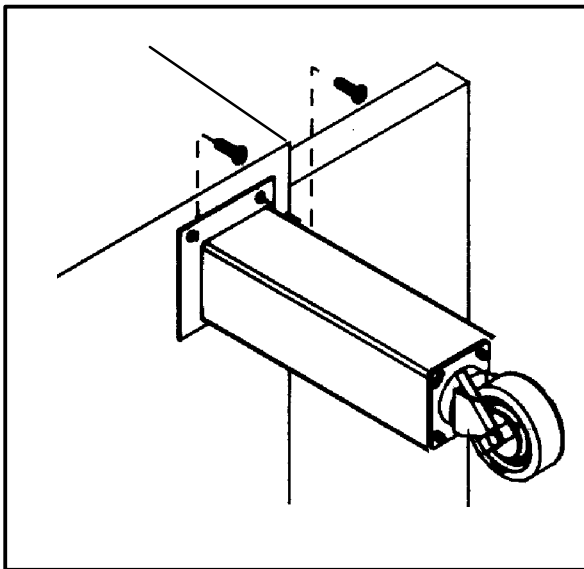

Figure 1
2. Install the legs and casters as shown. See Figure 1.